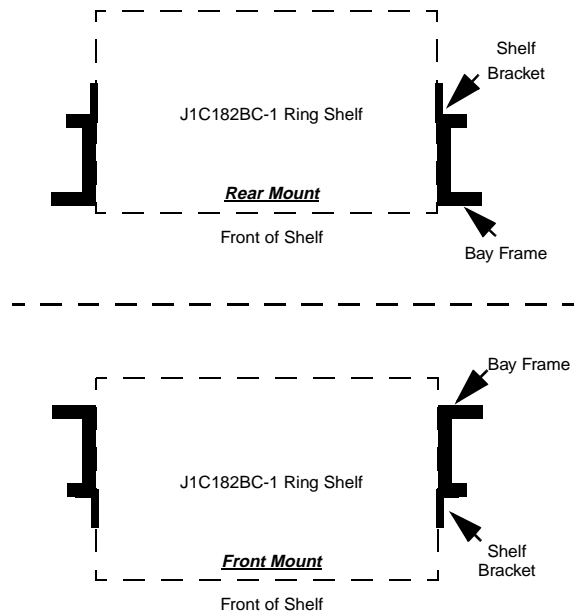

Figure 2-9. J1C182BC-1, List 3 Remote Terminal Ring Shelf Bracket Mounting Positions (Top View)
9. Rotate each mounting brackets 180 degrees and place them over the rear mounting bracket holes (Figure 2-9). Secure with mounting bracket screws.